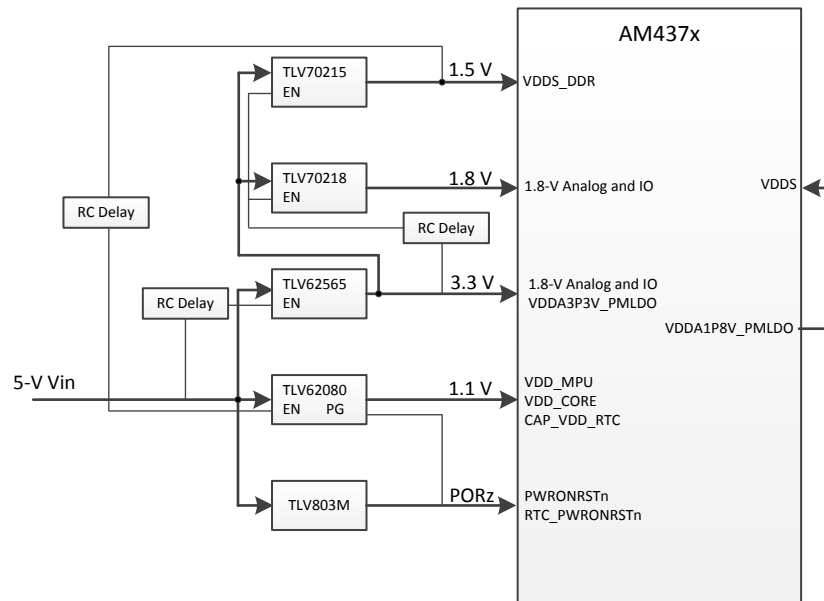
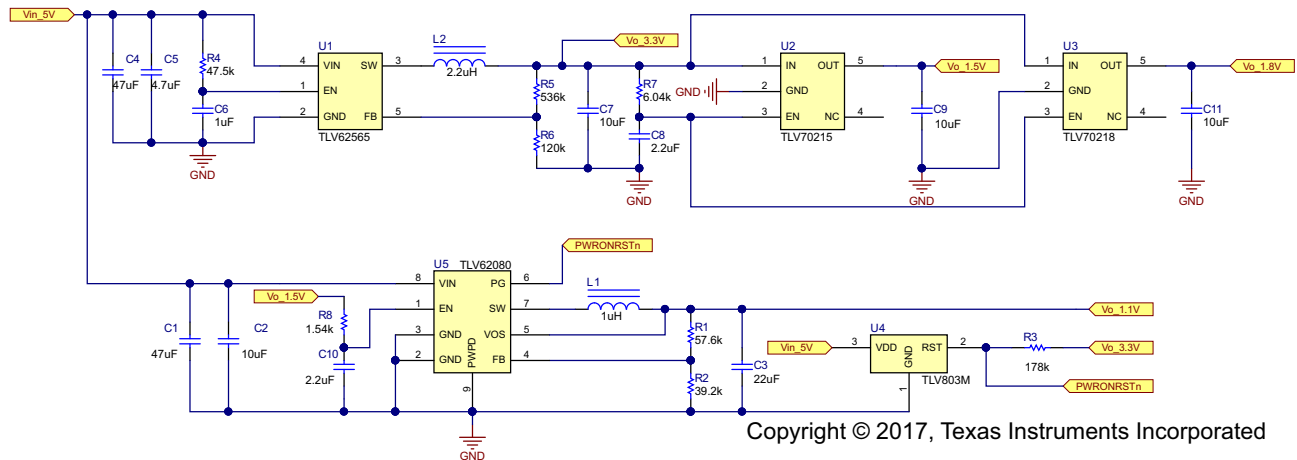

Figure 1. Functional Block Diagram Powering AM437x
Figure 3. Powering and Sequencing Circuit for AM437x Requirements
Figure 1 shows a block diagram of the TLV family of devices and AM437x interface. A detailed circuit schematic detailing the power solution and sequence is found in Figure 3.
The proper connections for this power-on sequencing are shown in Figure 3. When the 5-V rail is on, R4 and C6 provide an RC delay to the EN pin of the TLV62565. After the TLV62565 starts up, the 3.3-V output rail is connected to another RC delay, R7 and C8, which provides the EN signal for both LDOs. When the EN signal ramps up to the threshold voltage of the TLV70215 and TLV70218, these two ICs begin to start up. In this way, the 3.3-V rail and 1.5-V/1.8-V rails are powered on in the right sequence. Lastly, the EN pin of the TLV62080 is connected to the output of the 1.5-V rail by an RC delay, R8 and C10. In this way, the 1.1-V rail is powered on after the 1.5-V/1.8-V rails.
The proper connections for this power-off sequencing are shown in Figure 3.
Figure 3 shows the circuit schematic detailing the external components required by the optimized discrete solution to achieve the 3.3-, 1.5-, 1.8- and 1.1-V power rails required by the AM437x. In addition, Figure 3 shows the sequencing circuits with RC delays that achieve the proper power-on, power-off, and PWRONRSTn sequencing required by the AM437x.
- Replaced Figure 3 4